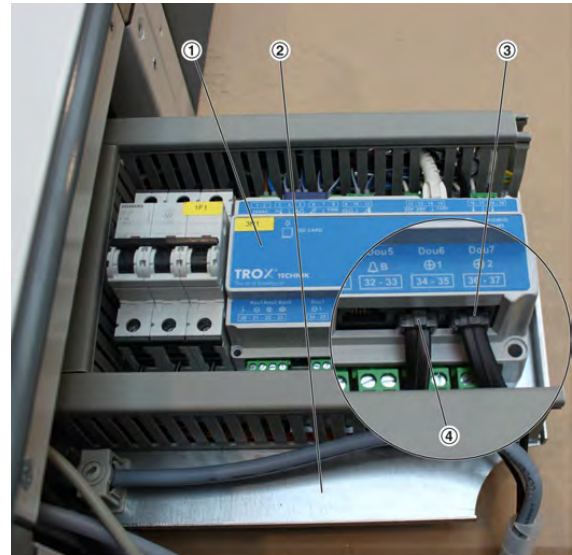

Fig. 6: X-CUBE control master
6. ▶ To connect the bus cable to the control master (Fig. 6/1), pull out the tray with the electrical components (Fig. 6/2).
Feed the bus connection cable through the cable entry point (Fig. 2/2) in the panel and plug it into port C (RJ12 socket, Fig. 6/3) of the control master.
If port C is already used, plug the connection cable into port B (RJ12 socket, Fig. 6/4).